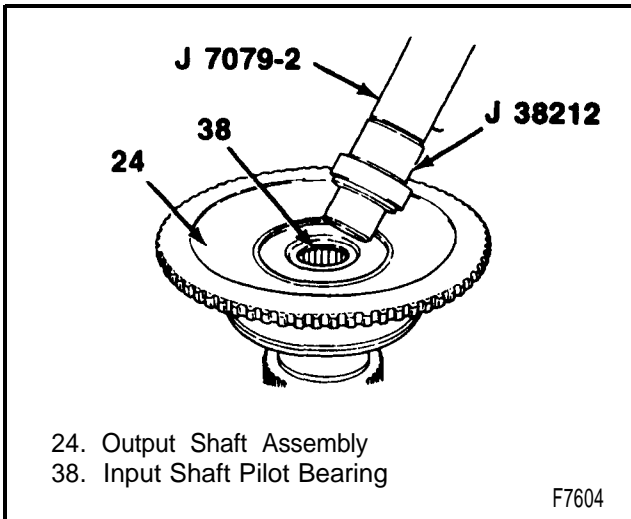
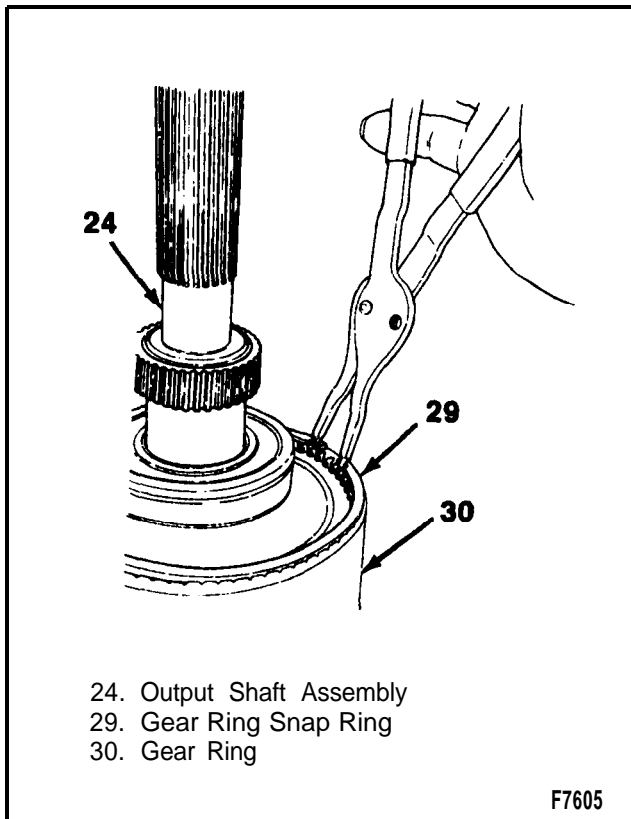

Figure 19 - Installing the Input Shaft Pilot Bearing
Figure 20 - Installing the Gear Ring Snap Ring
2. Input shaft pilot bearing (36) into the output shaft assembly (24) using J 7079-2 and J 38212 (figure 19).
3. Output shaft assembly (24) to the gear ring (30).
4. Gear ring snap ring (29) to the gear ring (30) (figure 20).
5. Output shaft bearing (35) to the front cover (11).